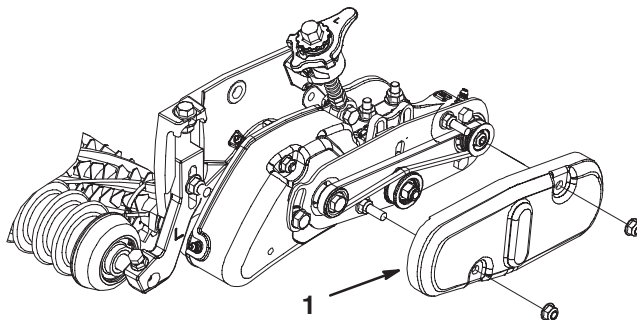

Figure 30
22. Slide the belt cover onto the mounting bolts and secure with (2) flange nuts (Fig. 30).